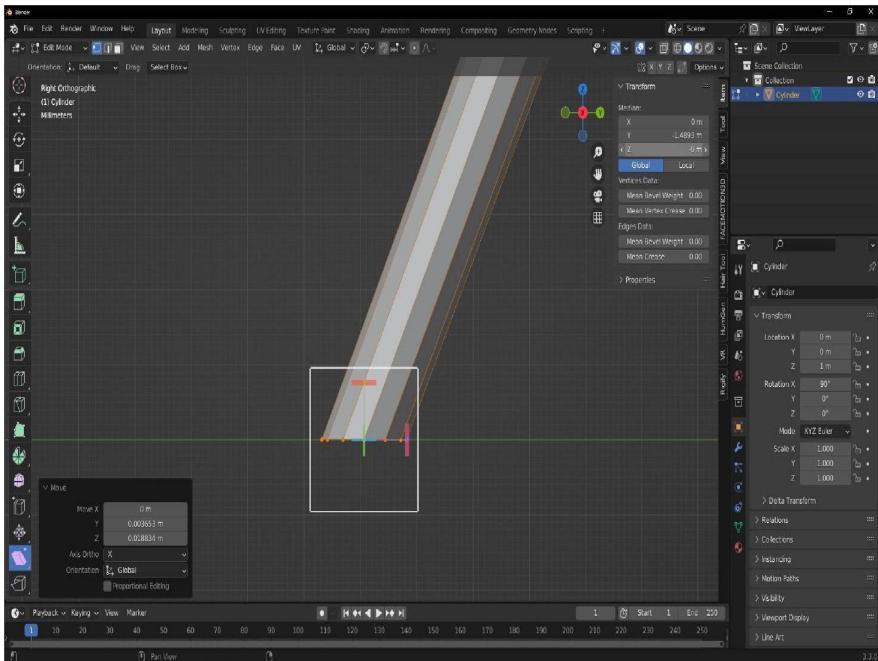

Figure 9.10: Open end of rope sheared parallel to the ground and snapped to world 0 in the z axis
14. Press the **N** key to open the **Side bar menu**, and in the **Item** tab, switch the **Transform Median** from **Local** to **Global**, then type **0** into the **Z** field, to snap the rope to the ground as shown in *Figure 9.10*: